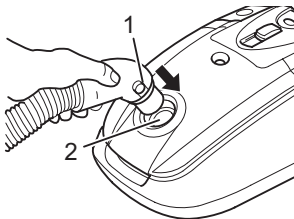

Fig. 2
1. Push the end of the suction hose (Fig. 2/1) into the receiver opening (Fig. 2/2) on the cylinder vacuum cleaner until the lock clicks into place audibly and noticeably.